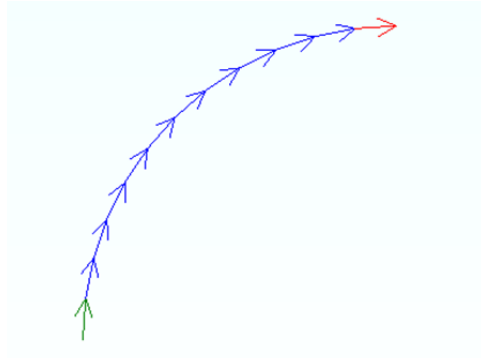

Figure 70: Partial Circle Example
- "Start Angle" and "End Angle" together define the portion of a circle; It can be a full circle, multiple revolutions, or an arc. Together they also define the direction of the circle. For example, with a "Start Angle" of 180 degrees and an "End Angle" of 90 degrees, the circle would start at 9 o'clock and continues clockwise until it ends at 12 o'clock (see Figure 70 on page 100).